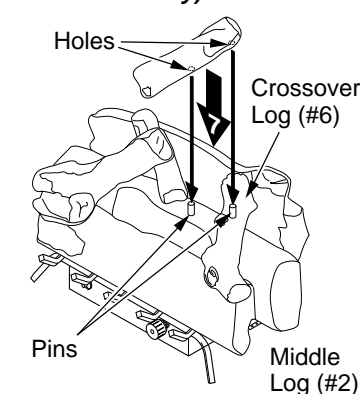

Figure 34 - Installing Crossover Log (#7) to Model CCL3930NTA Only
7. **For CCL3930NTA only:** Locate holes on the bottom of crossover log (#7). Slide onto the pins located in crossover log (#6) and middle log (#2). See Figure 34.